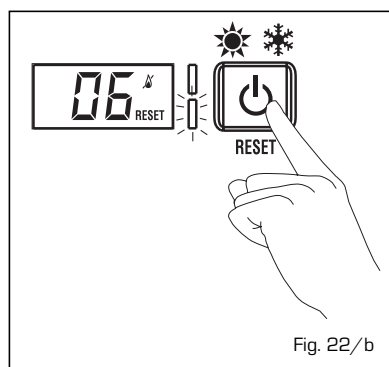

Fig. 22/b
- SAFETY/LIMIT THERMOSTAT ANOMALY ALARM 07 (fig. 22/c)